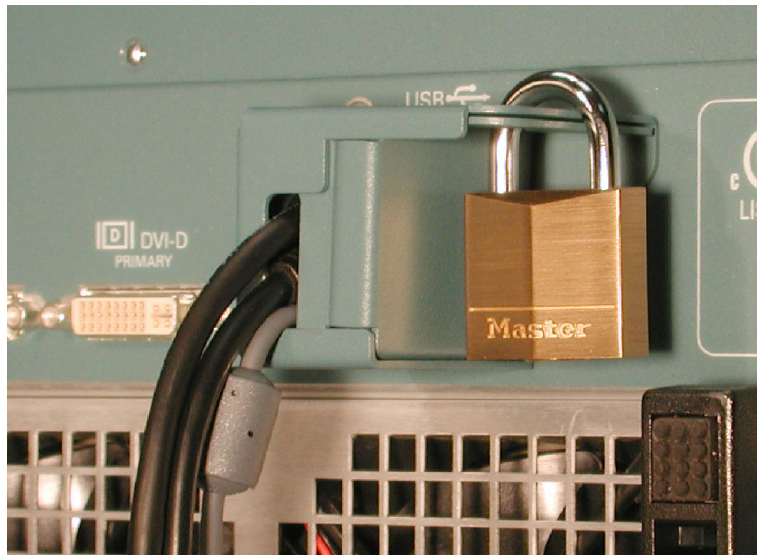

Figure 54: Attach a padlock
5. Attach a padlock through the padlock holes. The holes will accommodate a 9/32-in shackle. (See Figure 54.)